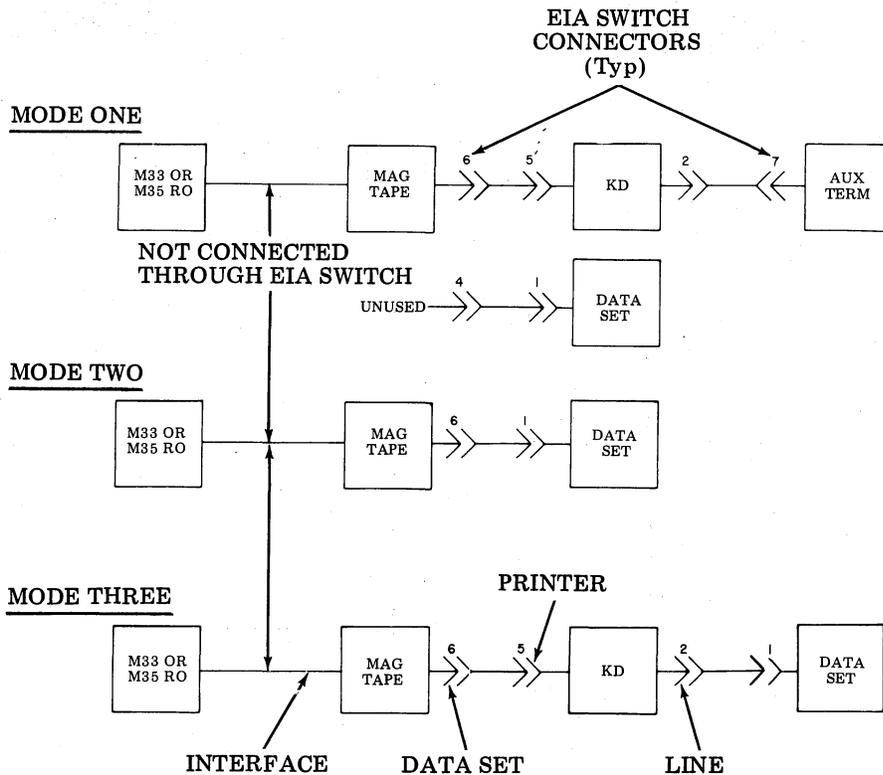

Fig. 11—Magnetic Tape Terminal With DATASPEED 40 KD and Model 33 or 35 RO Printer
6.10 Mode one permits an optional auxiliary terminal to transfer data to and from the KD which can deliver data to the MT. The DS is not used in this mode (Fig. 11). Any DATA-SPEED terminal could be connected to switch assembly connector 4 for on-line operations in this mode.